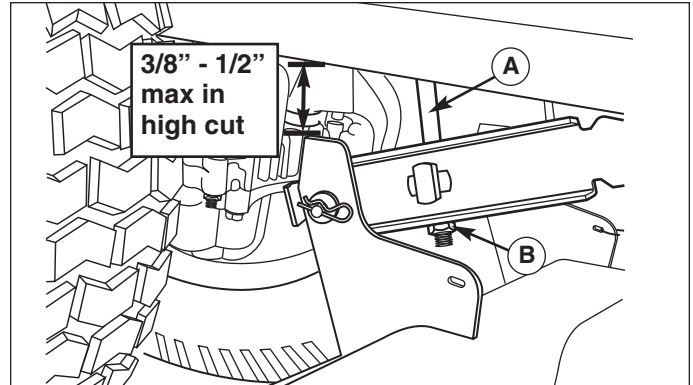

Figure 34. Leveling The Mower Side-to-Side
5. Turn the locknut (B, Figure 34) to raise or lower that side of the mower.
NOTE: The maximum the mower can be adjusted in high cut is 3/8" to 1/2" between the frame and mower up-stop (see Figure 34).